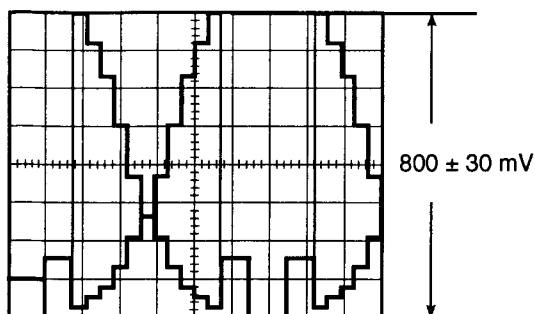

Fig. 5-14
- Adjust data with the **ARROW** keys so that AD/IN signal level becomes 800 ± 30 mV as shown in Fig. 5-14.